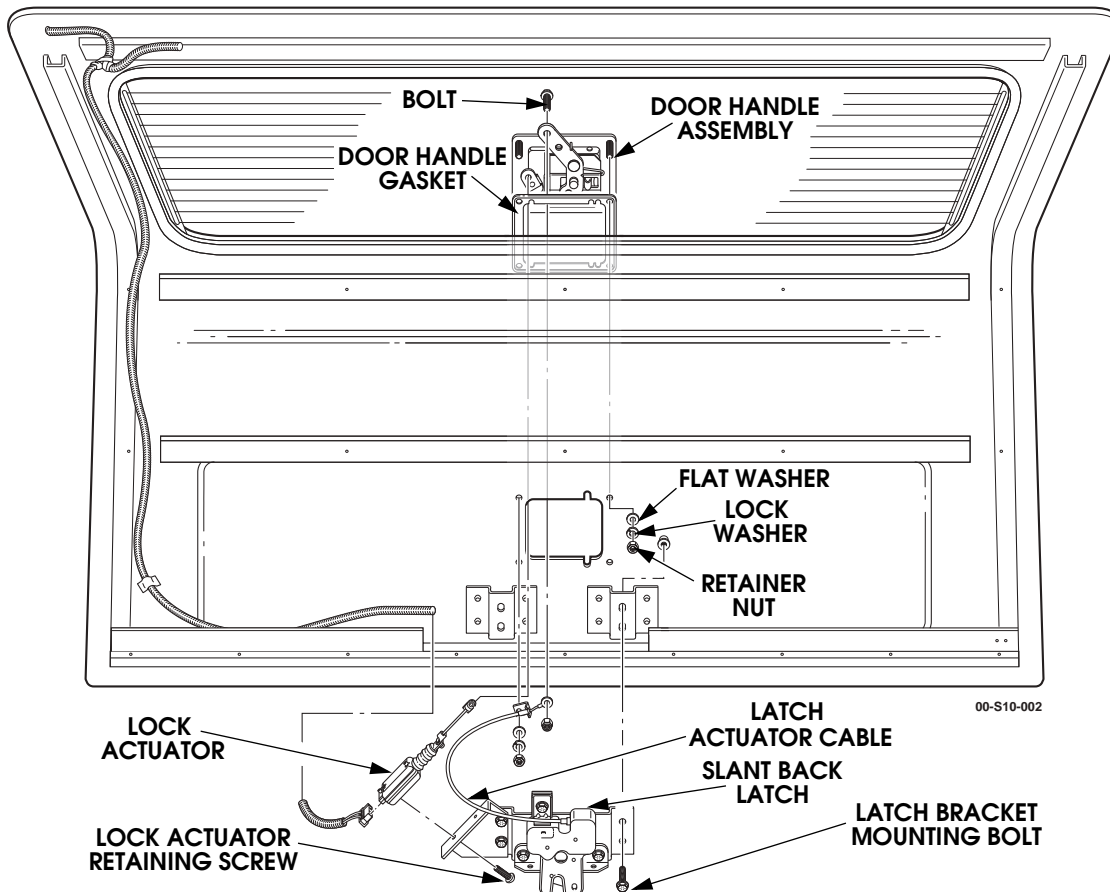

Figure 10-177: Slant Door Handle and Latch Replacement
2. Disconnect the power lock actuator from the slant door handle assembly (Figure 10-177).
1. Install the slant door handle assembly and gasket using the previously removed door handle hardware (Figure 10-177).